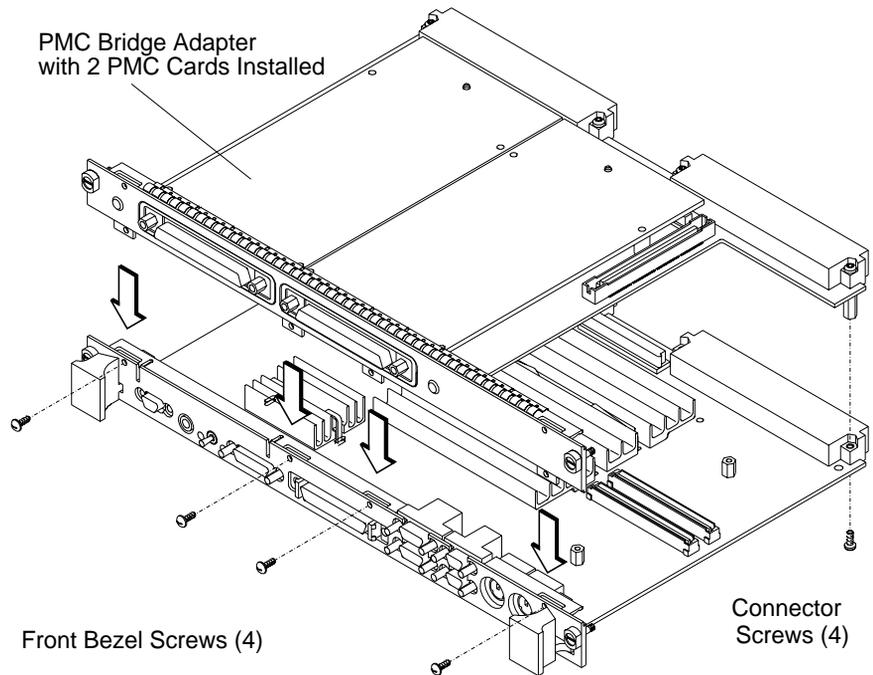

Figure 2-7
- 5 Install the PMC bridge adapter onto the board computer as shown in Figure 2-7. There are four screws that secure the front bezel, and four screws that secure the VME connectors.